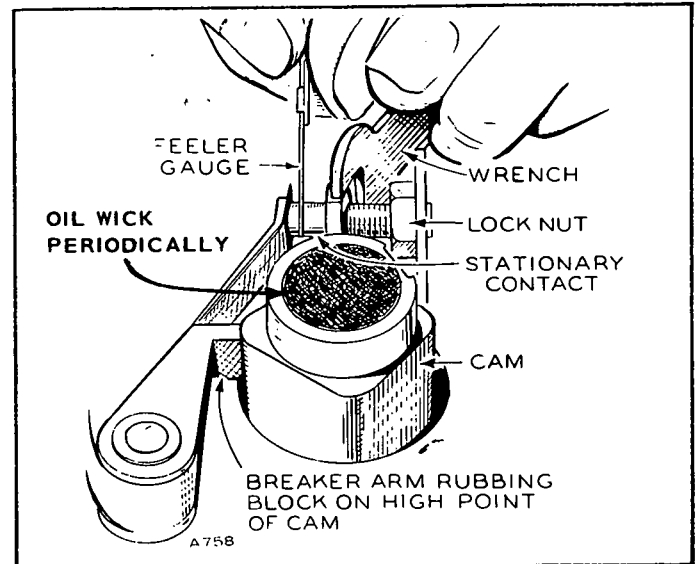

FIGURE 16. BREAKER POINTS
- (2) Ignition breaker points. Fig. 16 must be correctly gapped. Crank engine to fully open breaker points. Loosen and move stationary contact to correct the gap at full separation. Retighten contact and re-check gap.